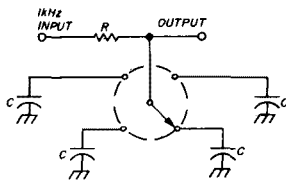
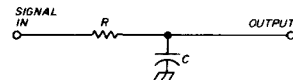

fig. 1. Diagram of a simplified commutating filter. The switch makes one revolution each period of the desired signal frequency to be filtered.
fig. 2. Simple RC lowpass filter from which the commutating filter is derived.
fig. 2. Voltage-dropping resistor R11 added to reduce low voltage to small tubes in KWM-2. A heat-dissipating resistor in a finned housing is recommended. This is bolted to the chassis sidewall near the 5R4GY socket. A Dale type RH-25 resistor or equivalent is suggested.
260 volts on transmit. If the voltage is much higher than these values, add a 75-150 ohm, 25-watt wire-wound dropping resistor, R11, as shown in fig. 2. The small tubes in the KWM-2 will run much cooler if you do this. The 5U4GB rectifier in the power supply should be replaced with a solid-state plug-in rectifier, and the resistance value of R11 should be chosen to deliver the correct voltage. Substitution of the rectifier improves regulation and removes 15 watts of filament power from the supply transformer.
Agc overload and audio distortion on strong SSB signals? It's recommended that this useful modification be performed along with the previous one in cases where both arrangements are missing from the transceiver. This modification adds hang agc to the receiver rf amplifier (fig. 7) and greatly improves strong-signal reception. Refer to the under-chassis layout of fig. 2 for placement of parts:
fig. 7. Adding hang agc to your KWM-2, (A). Parts placement is shown in (B). (See also fig. 2.) Terminal support E40 is between socket XV16 and inductor L9. New resistors are ½ watt.
The commutating filter is a good example of how digital techniques provide a simple solution to an analog problem, but which would not work without the addition of some circuitry that is strictly analog. The commutating filter, as presented in fig. 1, is designed for 1 kHz; it is a bandpass filter, and its cen-
ter frequency is dependent only on the frequency with which it is driven. The bandwidth is dependent only on R and C; in fact, this bandwidth is exactly twice the cutoff frequency of the single RC lowpass filter of fig. 2. If you look at the voltage on any one capacitor of the filter of fig. 1, you'll see a near-dc signal which is the difference-frequency between the drive frequency and the signal frequency. Like the simple RC lowpass of fig. 2, it will drop to -3 dB when the signal frequency drops to $\frac{1}{2}\pi RC$ above the drive frequency. It is easily seen why the bandwidth is double the cutoff frequency of a simple RC lowpass filter. Since the output is being commutated sequentially through the four capacitors, it is modulated back up in frequency to that of the input, and phase is preserved.